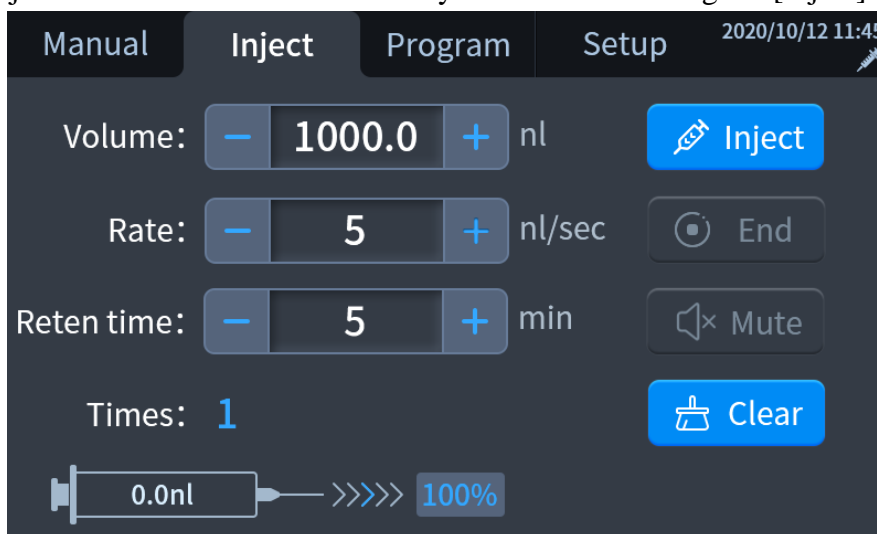

Figure 6-7
- 2) If the retention time is 0, the injection is over and the system will automatically record the number of injections, as shown in Figure 6-7.